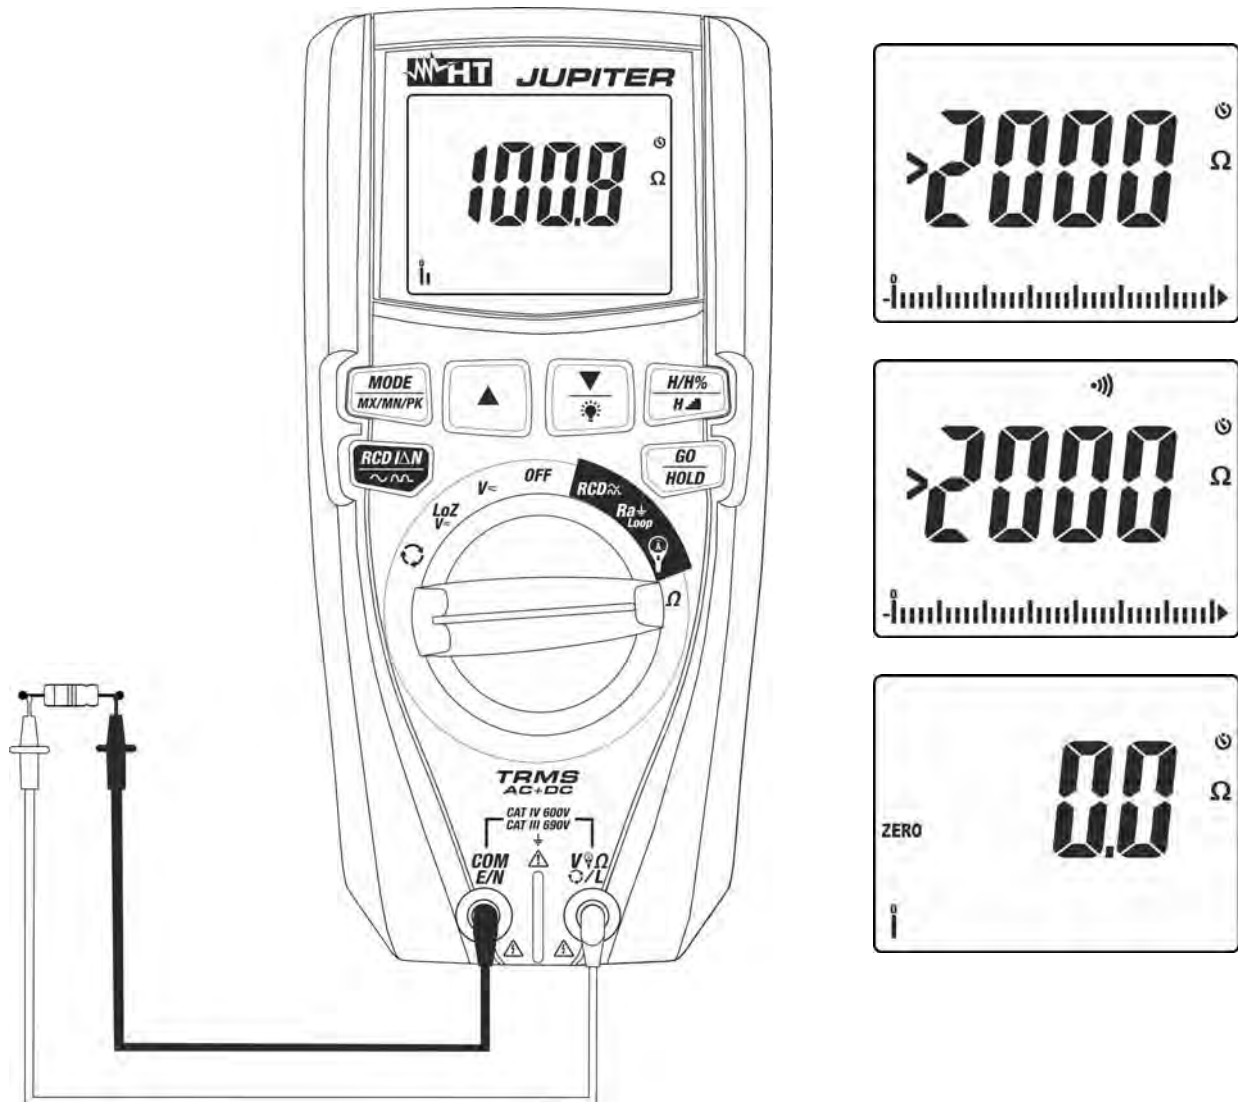

Fig. 11: Use of the instrument for resistance measurement and continuity test
4. Position the test leads in the desired spots of the circuit to be measured (see Fig. 11). The display shows the value of resistance.
5. If the display shows the message ">2000 $\Omega$ " (see Fig. 11) the maximum measurable value has been reached.